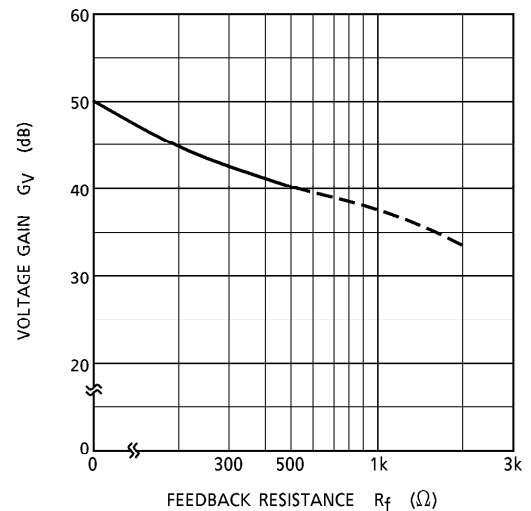

Fig.2
The voltage gain is reduced when  $R_f$  is increased. (Fig.2) With the voltage gain reduced, since (1) the oscillation stability is reduced, and (2) the pop noise changes when  $V_{CC}$  is set to ON, refer to the items 3 and 4.